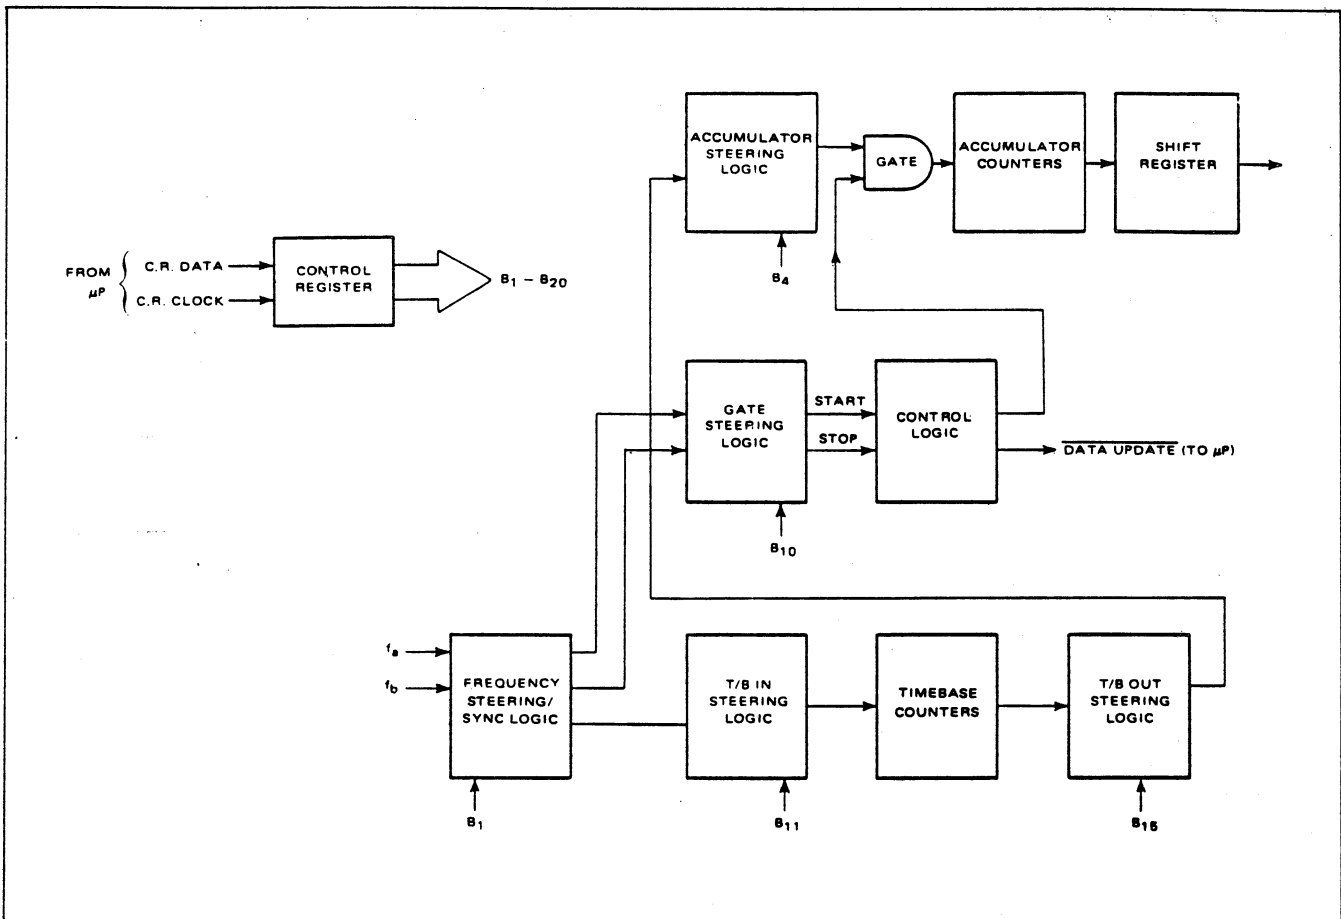

Figure 4.23 - Time Interval Signal Routing
4.4.9.10 Shown on figures 4.23 through 4.29 are the various signal routes used in the instrument for the different available functions. Also shown are the activated control lines for the particular function selected.